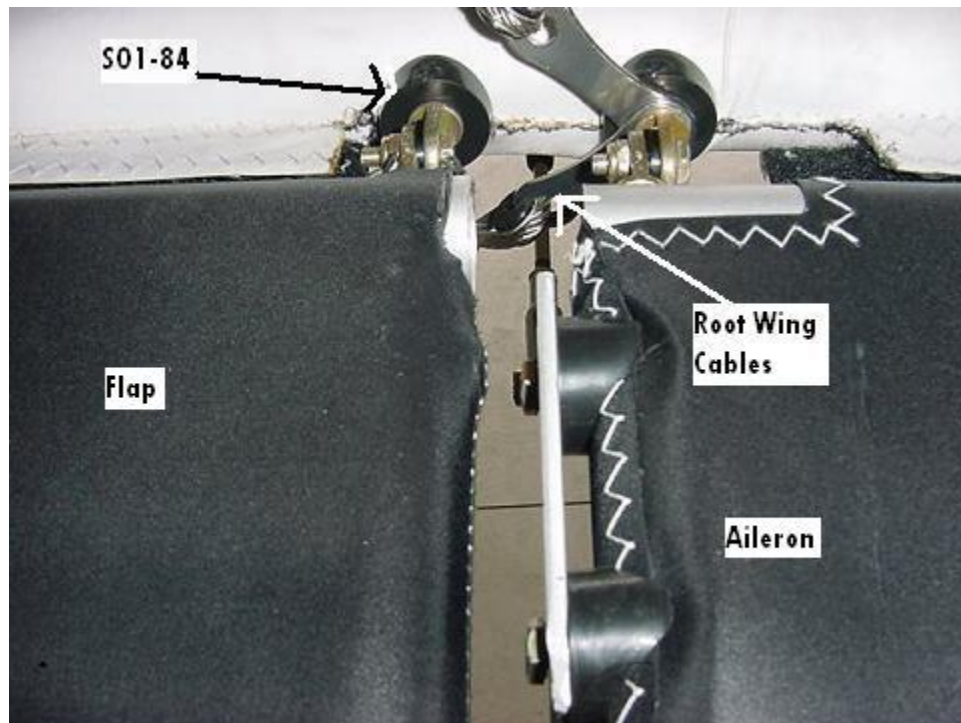

Figure 3 – Inner Wing Cable Attachment Point Eyebolt and Saddle Arrangement
This is the most time consuming portion of the assembly. In order to ensure proper spacing and freedom of movement for the flaps and ailerons, S01-84 Saddles must be between the eyebolt head and wing spar. Some aircraft are already equipped in this manner and will not need modification. If your aircraft is not, you must remove the existing eyebolts in the rear wing spar and replace them with an AN43B-25A Eyebolt as shown in Figure 3. A W4 and N4 washer and nut should be used on the inside of the wing spar to secure the eyebolt into place. Some bolts will require an extra washer. Replacement of the eyebolts that only extend through the wing spar and do not connect to anything else will be the easiest to do. Those that extend through the wing spar and connect to a compression tube will be the most difficult. Utilize the zippers in the wings to gain access to the interior nuts and bolts.
Bolt the flaps onto each wing using (1) AN3-5A, (1) W3P and (1) N3S at each eyebolt joint. The plastic W3P should be placed between the two eyebolts. Placement of the flap eyebolts should be as shown in Figures 3 and 4. Flap eyebolts should be to the inside of the wing eyebolts.
eyebolts should be to the inside of the wing eyebolts. Refer to Figures 3 and 4 for bolt placement.